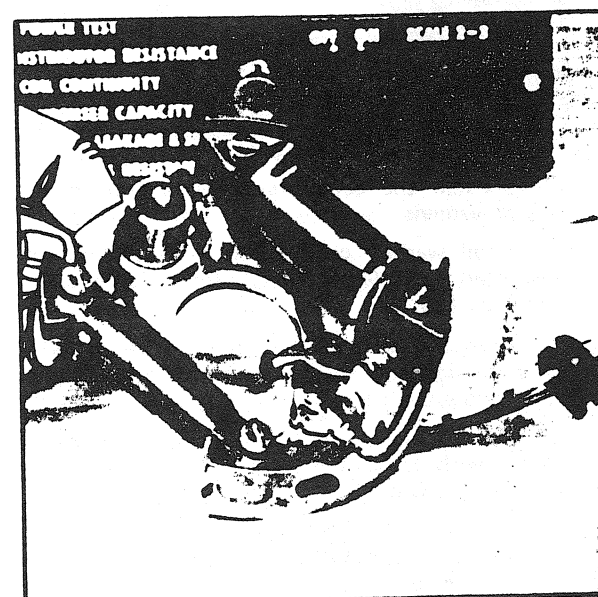

FIGURE 4
- Place a small piece of cardboard between points to insulate. (Fig. 4).